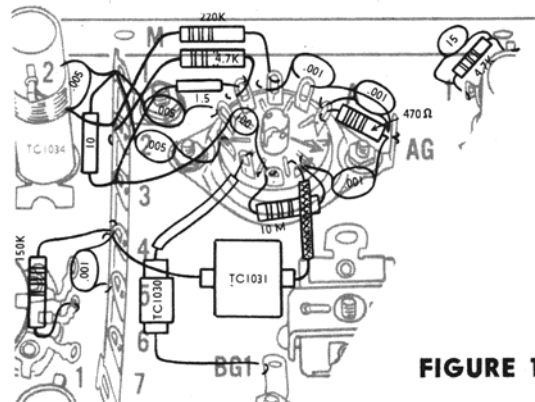

FIGURE 1.
This completes the preliminary wiring of this section of the transceiver. For wiring of the next section, refer to Figure 1. Some of the wires just installed have been omitted from the socket and terminal strip lugs in the sectional figures to follow, in order to avoid confusion. However, as each connection is soldered, the proper number of wires connected to the terminal at that point will be given as a check on your work.
- Connect the RF choke, part #TC1030 (this is a large resistor with wire wrapped around it) from socket A, lug 3 (use sleeving) (solder 1) to ground lug BG-1 (crimp). Dress as shown in Figure 1. Make sure that this coil lies flat to chassis, and keep close to strip M.
- Connect one lead of the RF choke, part number TC1031 (this is the coil with the large winding, and the pigtail leads) to terminal strip M, lug 4 (crimp). Keep the body of this coil close to ceramic capacitor R. Dress the coil as shown in Fig. 1. Connect the other lead to Socket A, lug 1 (solder 3) after first slipping a 3/4" length of sleeving over this lead.
- Connect a 150 K ohm resistor (brown-GREEN-yellow) from control N, lug 2 (solder 1) to terminal strip M, lug 4 (crimp). Dress as shown in Fig. 1.
- Connect this assembly to coil J, lug 4 (solder 2) and the other end to coil J, lug 1 (solder 2). Dress the assembly close to the coil lugs and next to the body of the coil as shown in Fig. 1.